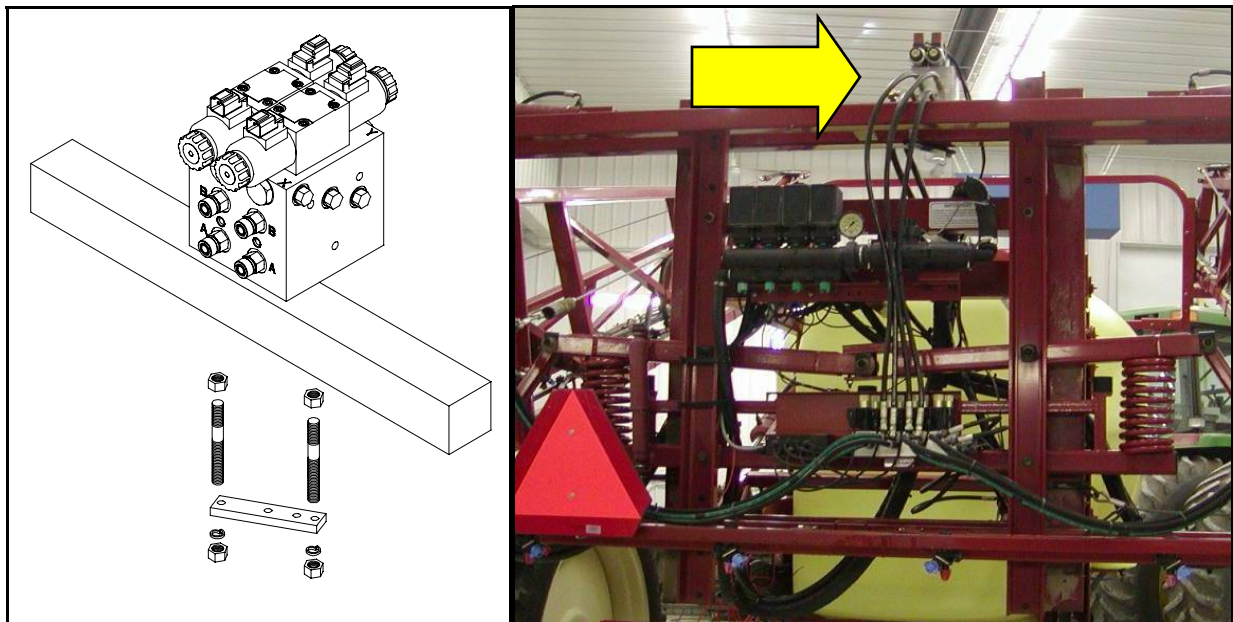

Figure 25: Valve Block Mounting
1. A suitable mounting location for the valve block is illustrated in **Figure 25**.